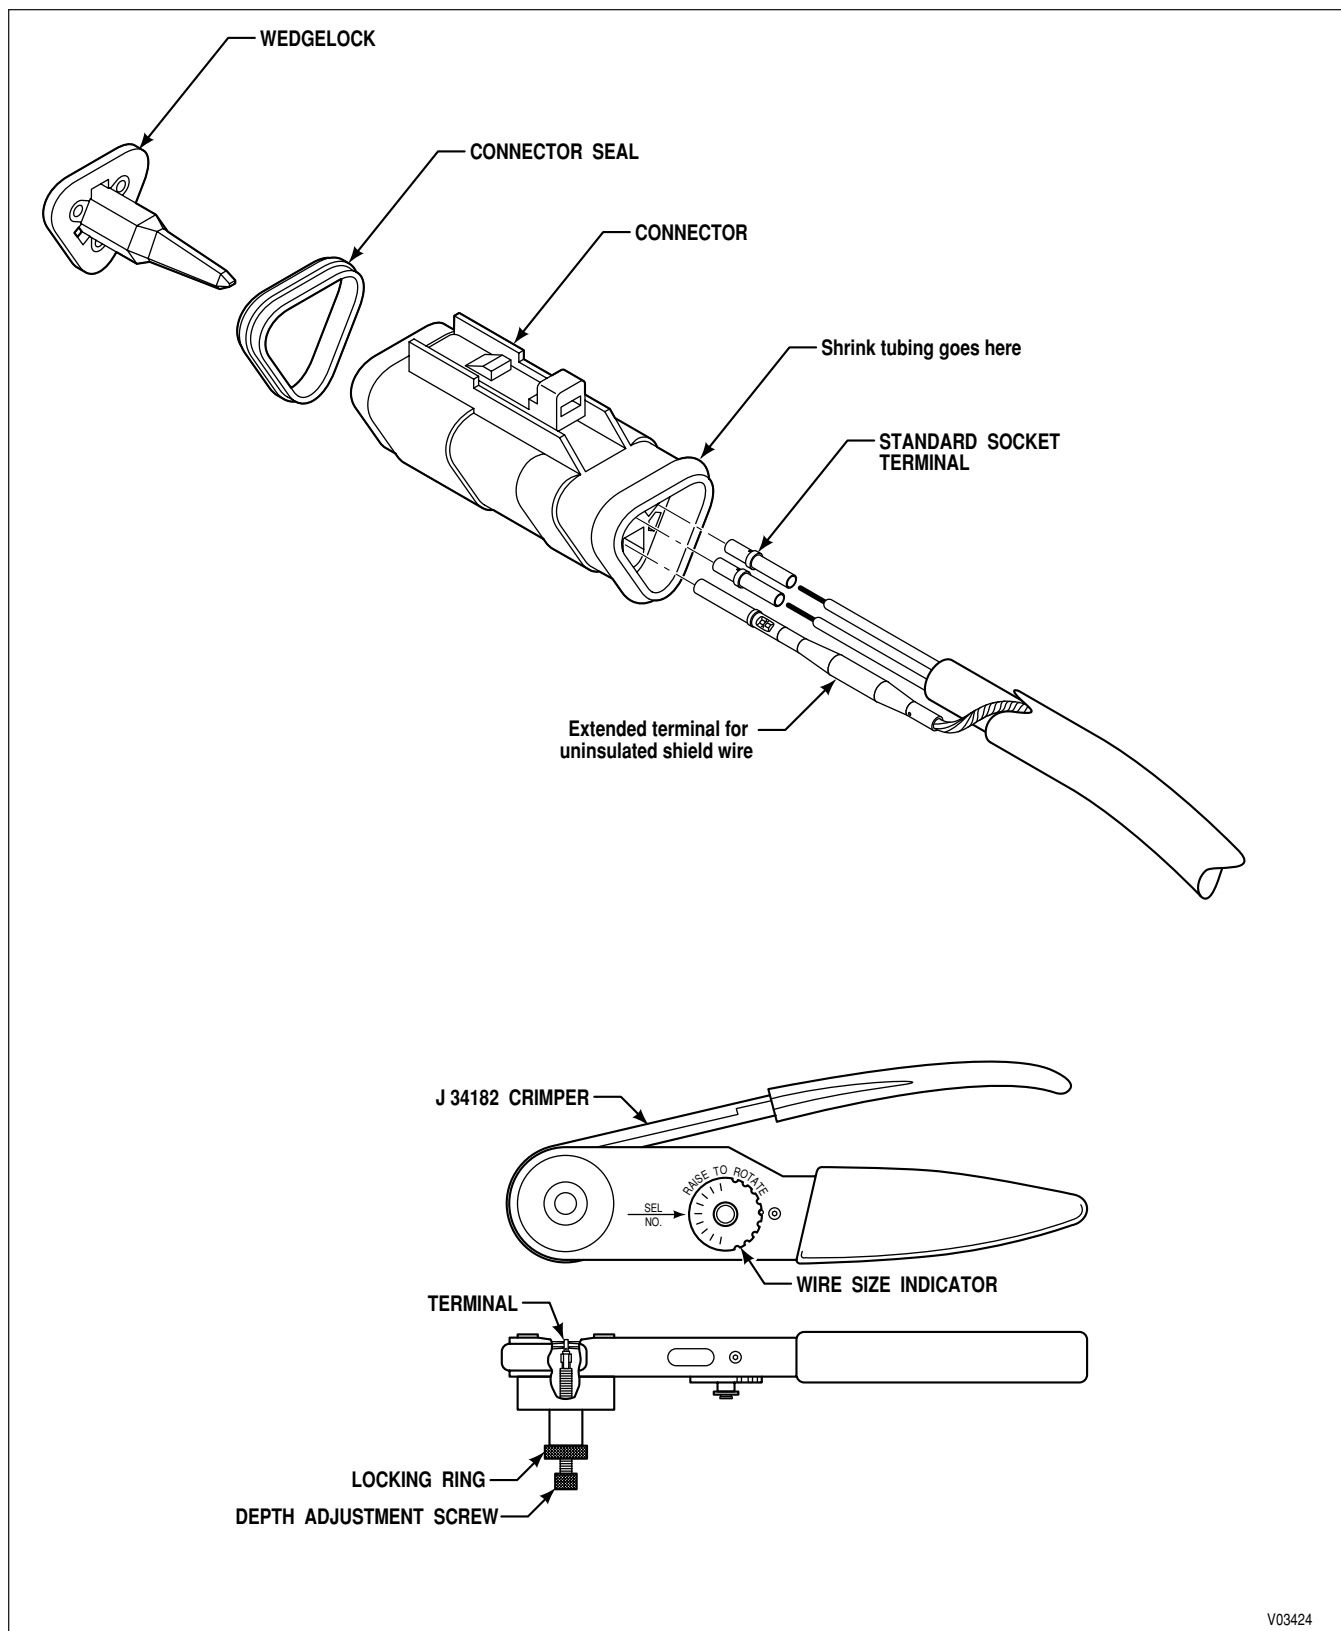

Figure E-9. Deutsch DT Series Connector (3-Way J1939 Interface)
A. Connector/Terminal Repair (refer to Figure E-9)
B. Terminal Removal (refer to Figure E-9)
C. Terminal Crimping (refer to Figure E-9)